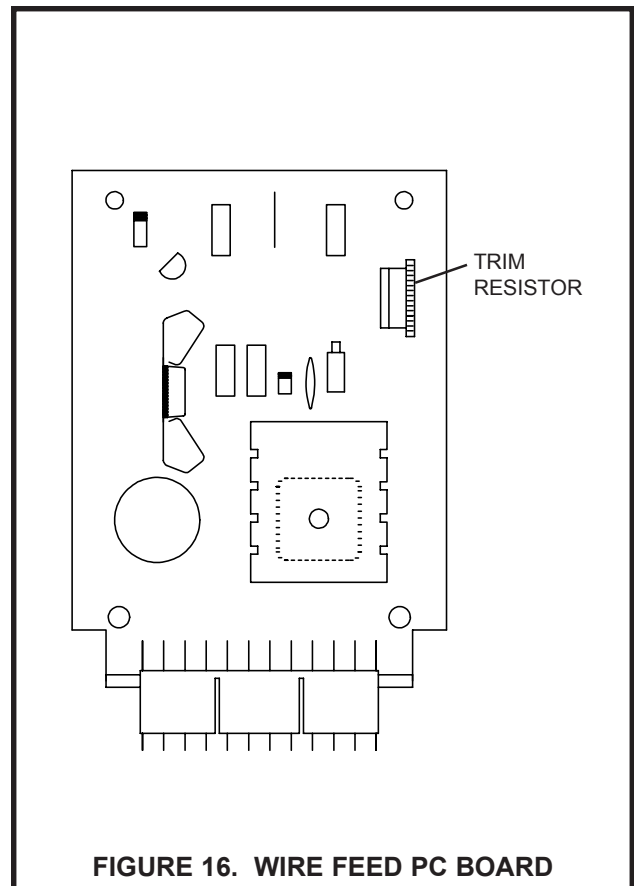

FIGURE 16. WIRE FEED PC BOARD
3. Referring to Figure 16, locate the trim resistor, this is located in the upper right hand corner of the wire feed PC board.